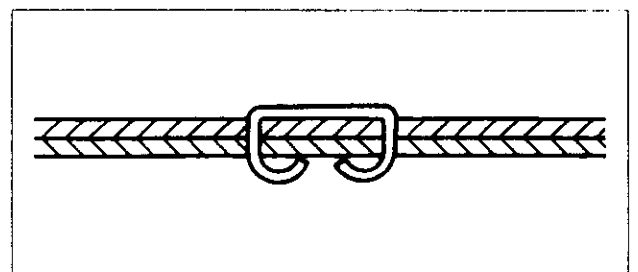

Figure 6
4. Close wire feed gears. Operate the stitcher under motor power, driving several stitches into material of the same thickness as the work to be stitched. Examine resulting stitches to determine if the correct amount of wire is being used (figure 6 shows what the stitch should look like.)